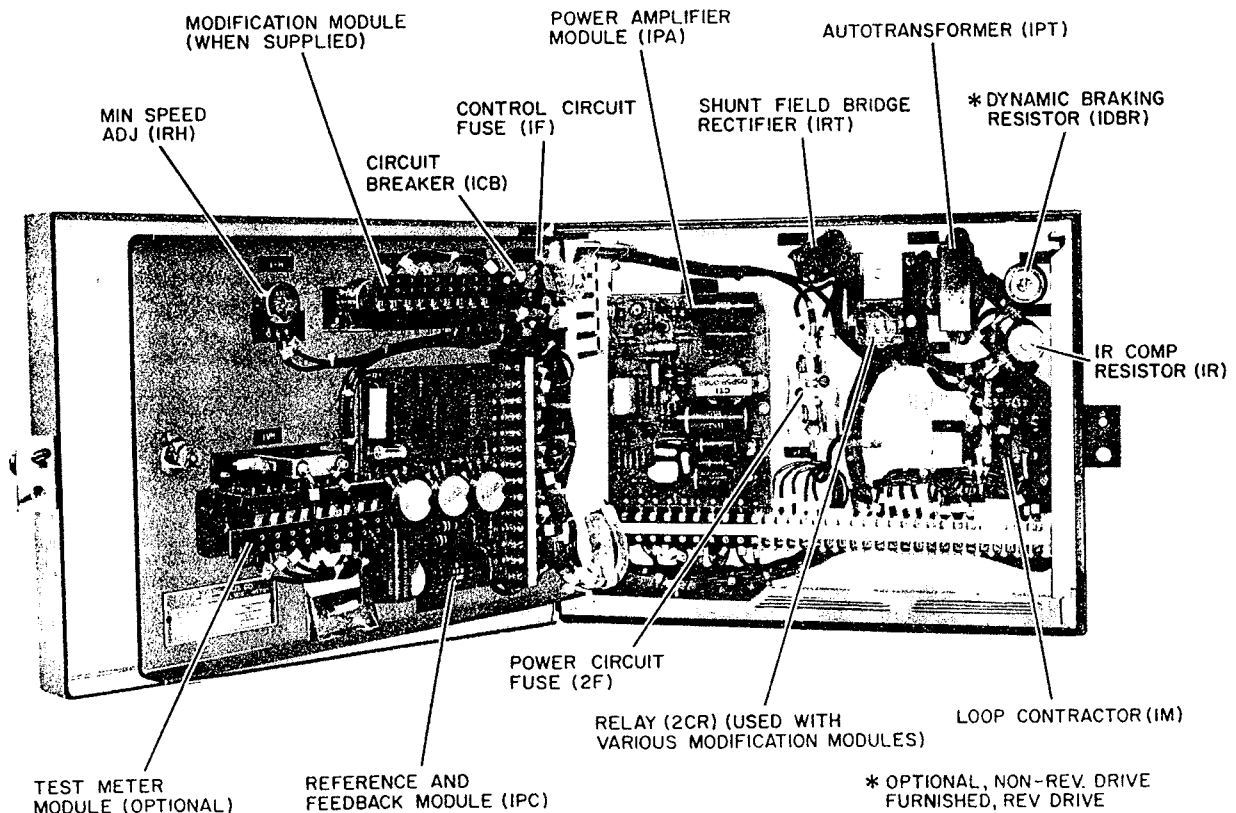

Figure 6-1. Location of Power Unit Components
**6.1.1 Component Location** — Location of all major components is shown in figure 6-1.